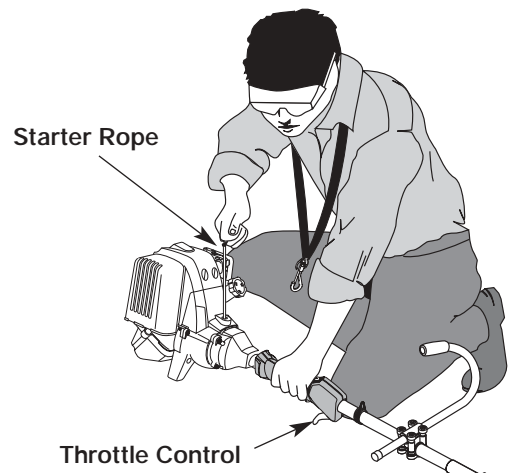

Fig. 22
WARNING: Avoid accidental starting. Make sure you are in the starting position when pulling the starter rope (Fig. 22). To avoid serious injury, the operator and unit must be in a stable position while starting. Make sure that any Add-On item is installed correctly and secure before starting the unit.
4. With the unit in the starting position, **do not squeeze the throttle control** (Fig. 22). Pull the starter rope out a short distance, until you feel some resistance. This is usually around 2-4 inches. Then pull the rope smoothly and briskly. Repeat this 5 times. The engine should start.